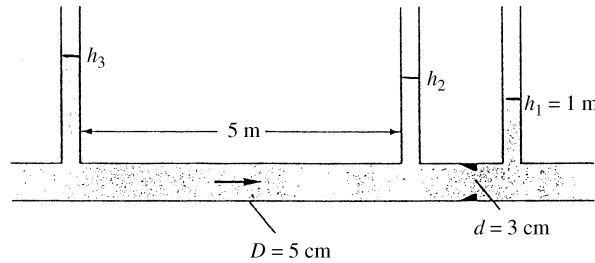

Fig. P6.148
6.148 A smooth pipe containing ethanol at 20°C flows at 7 m³/h through a Bernoulli obstruction, as in Fig. P6.148. Three piezometer tubes are installed, as shown. If the obstruction is a thin-plate orifice, estimate the piezometer levels (a) h_2 and (b) h_3 .